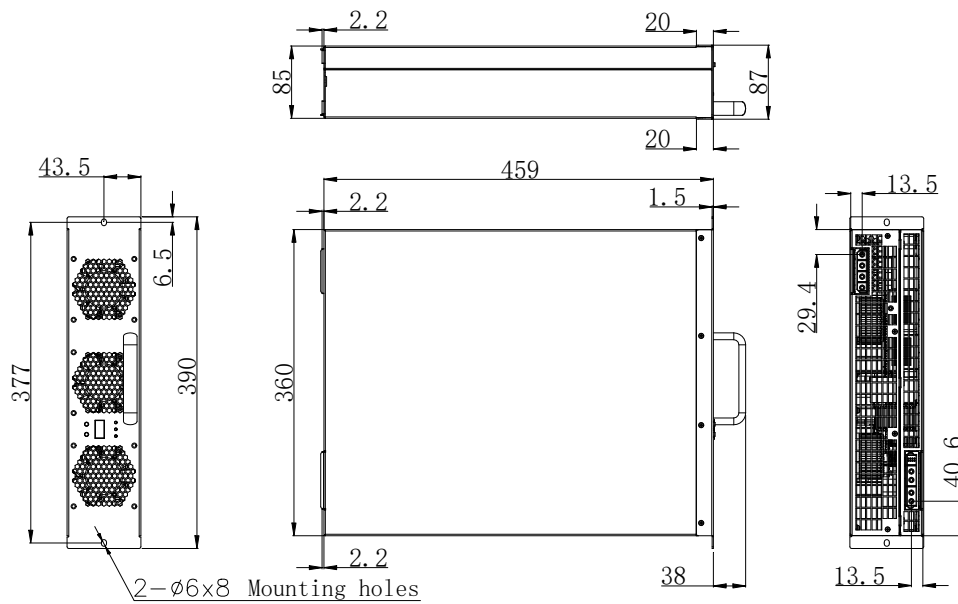

Figure 2-6 Module Dimensions (mm)
2.2.1 The dimension of MXR100040 is shown in figure 2-6.